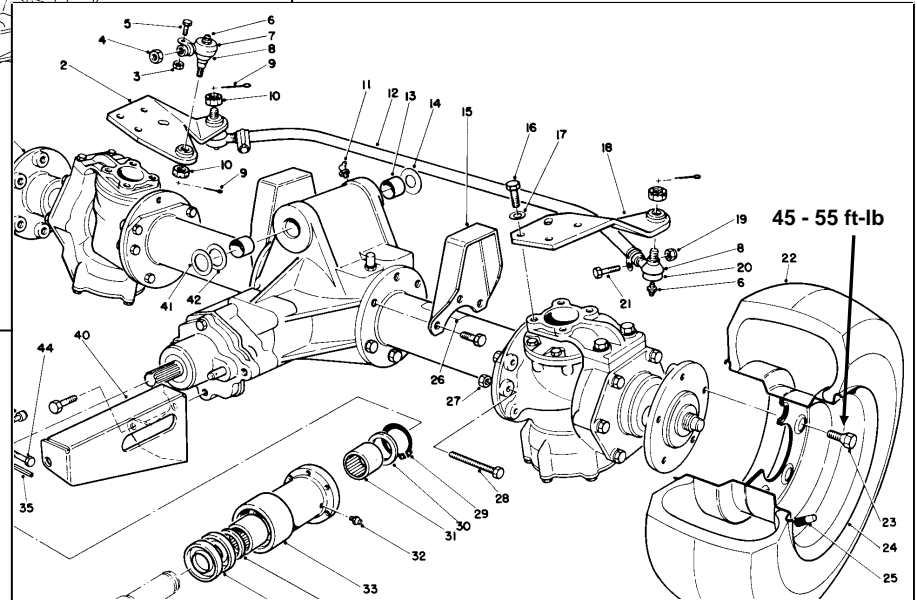

Figure 10B
NOTE: A varying number of washers (Fig. 10B, Item 41, 42) may have been installed between the axle pivot and axle support during manufacture. Make sure the same number of washers are installed during reassembly.
9. Reverse steps 1 - 8 to install axle. The washers (Fig. 10B, Item 41, 42) must be positioned between the front end of the axle pivot and the axle support (see the NOTE above). Make sure thrust washer (Fig. 10B, Item 14) is installed between rear end of axle pivot and the axle support.